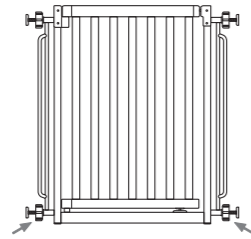

Figure 3
- Tighten the Lower Adjuster Knobs until the clearance between the Gate Door and the Main Frame is set to 1.8" (4.5 cm) and under as shown in Fig. 3.